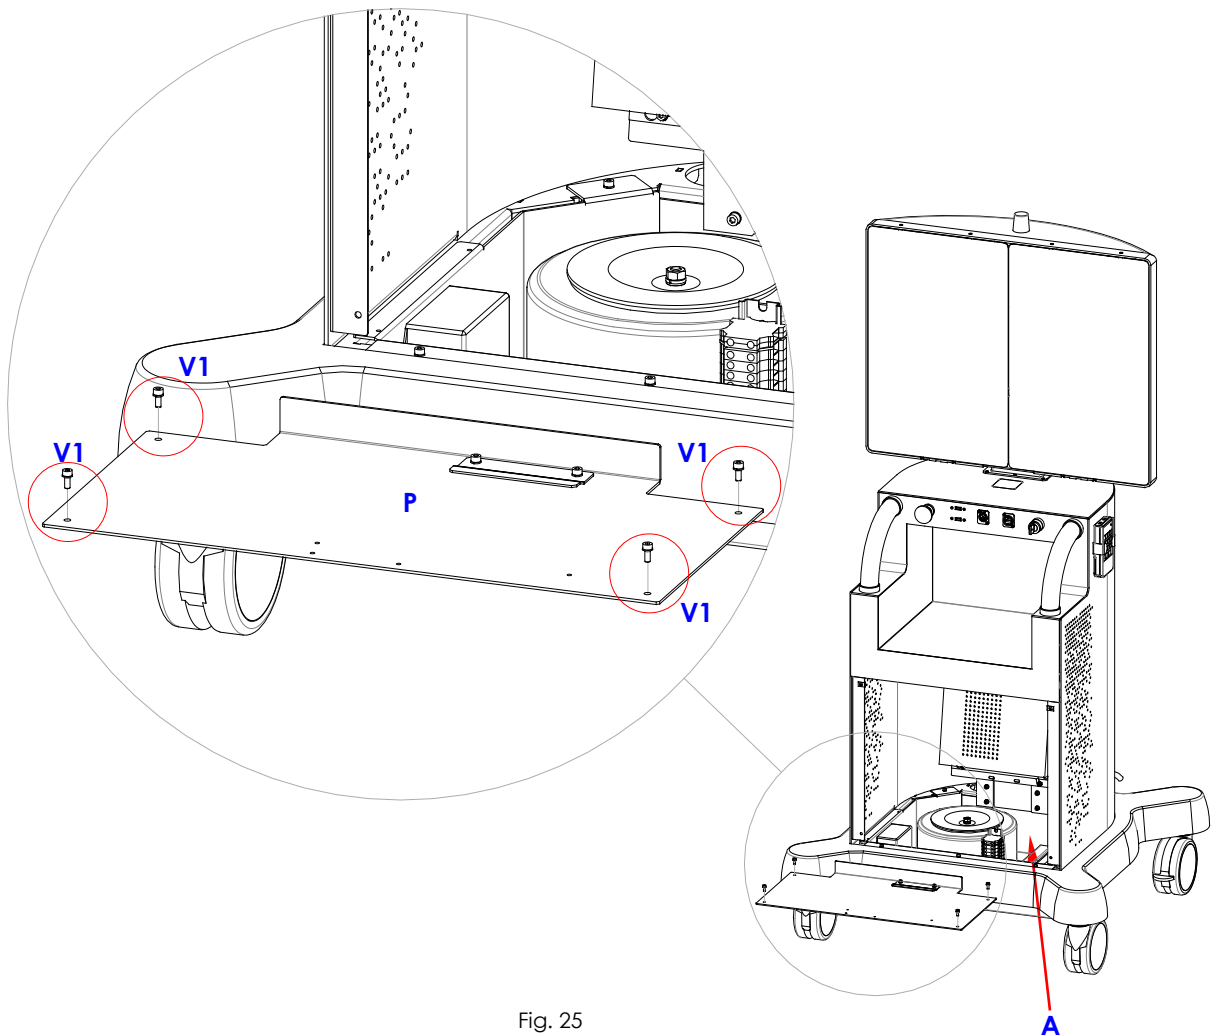

Fig. 25
- Undo the 4 screws (V1) and remove the plate (P), Fig. 25.